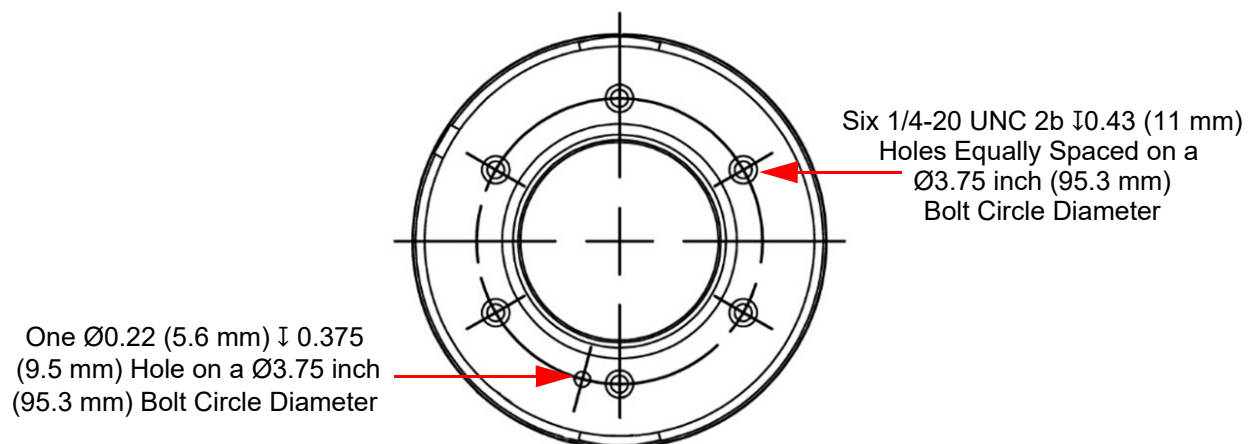

Figure 5-12 Mounting Hole Pattern (4-Meter Stiletto P/N: 711290461 Shown)
3. Properly secure the payload to the mast with customer-provided 1/4-20 high strength hardware. Choose the appropriate length of screw in order to allow maximum thread engagement with the threaded inserts. The standard Payload Interface has six 1/4-20 UNC 2b ± 0.43 (11 mm) holes (Figure 5-12). If required, the $\varnothing 0.22$ (5.6 mm) ± 0.375 (9.5 mm) hole may be used for orientation. The mounting hardware must include proper means to resist vibration loosening such as thread-locking compound and/or locking hardware. Torque all hardware as appropriate for its size and grade.